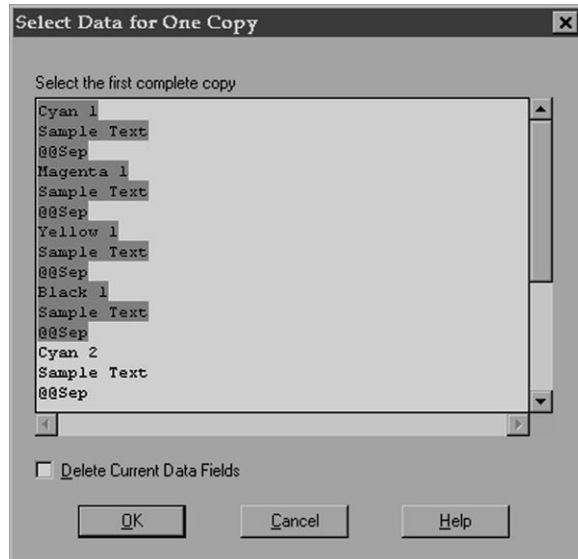

Figure 139. Select Data for One Copy Dialog
4. Highlight the first line up to the start of the next record, as shown for the sample file in Figure 139 on page 142.